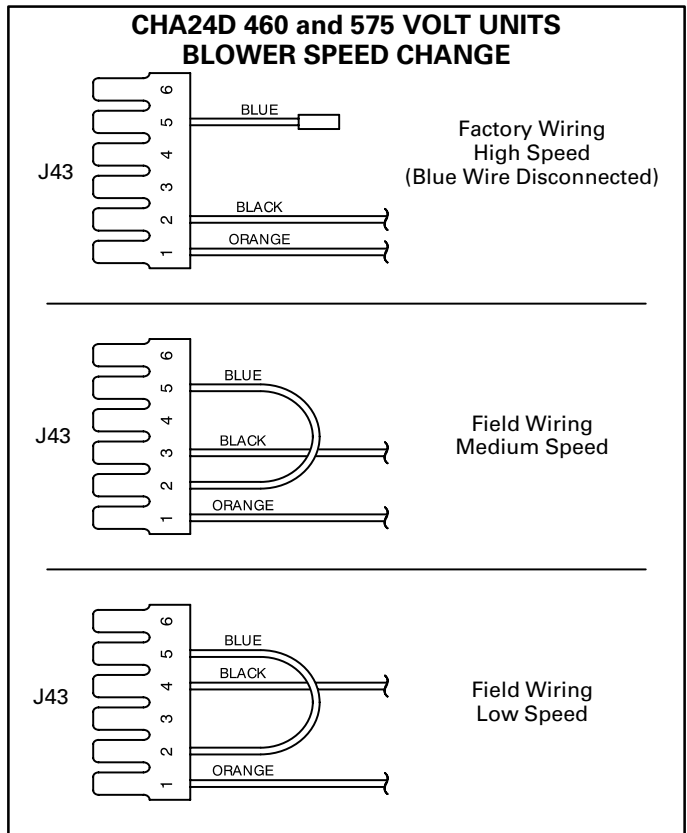

FIGURE 12
- 5- Table 5 shows the speeds associated with each pin in the harness plug. Referring to figure 12, choose the blower speed desired and make appropriate wiring changes.